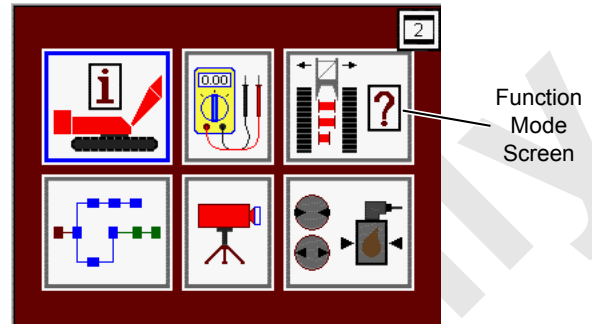

FIGURE 3-6
1. Enter the function mode in the main display (Figure 3-6).